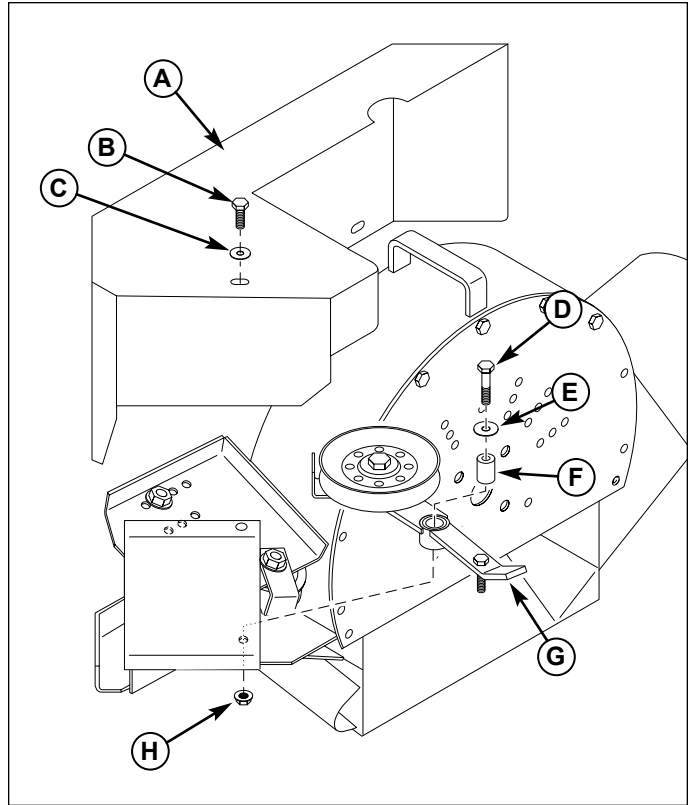

Figure 9. Idler Arm Installation
1. Remove the belt guard (A, Figure 9) and hardware (B & C) from the blower housing and set aside.